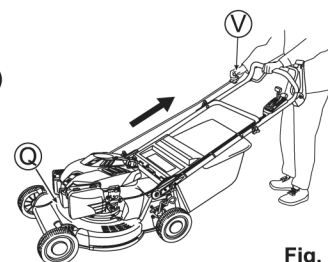

Fig. 11
1. Install Plug cap (Q). (See Fig. 11)
4. To start the engine, first grip the handle with your left hand and then grasp the starter knob (V) with your right hand. Gently pull the starter knob, stopping temporarily when you feel tension in the cable, (See Fig. 11) and then pull rapidly with force from that position. After that, slowly return the starter knob.